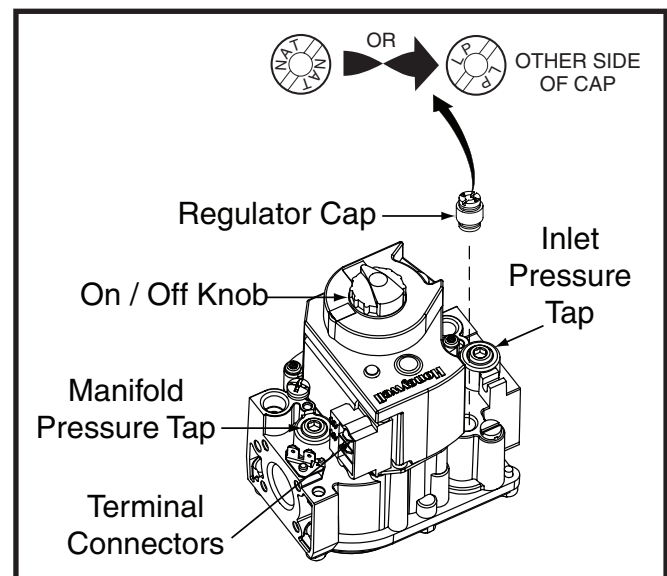

Figure 13. Gas Valve
Converting single stage valves to LP/Propane requires the replacement of the burner orifices and flipping the regulator cap to the side marked LP. The end facing up should now read LP. See Figure 13.
2. Using a 3/16" Allen wrench, remove the plug from the inlet pressure tap (INLET side of gas valve). See Figure 13 \(page 18\).
4. Turn the gas valve ON/OFF knob to the ON position. See Figure 13 \(page 18\).
3. Using a 3/16" Allen wrench, remove the manifold pressure tap plug located on the outlet side of the gas valve. See Figure 13 \(page 18\).